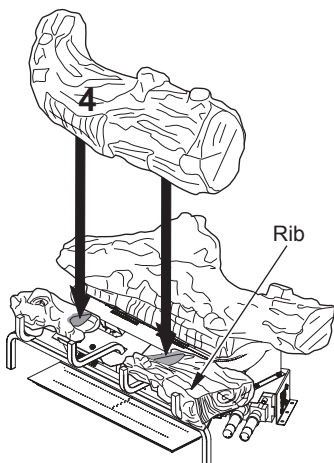

Figure 23 - Installing Log #4
4. Place front log (#4) on top of left and right bottom logs as shown in Figure 23. Notches in bottom of log #4 will fit over ribs in logs #2 and #3.